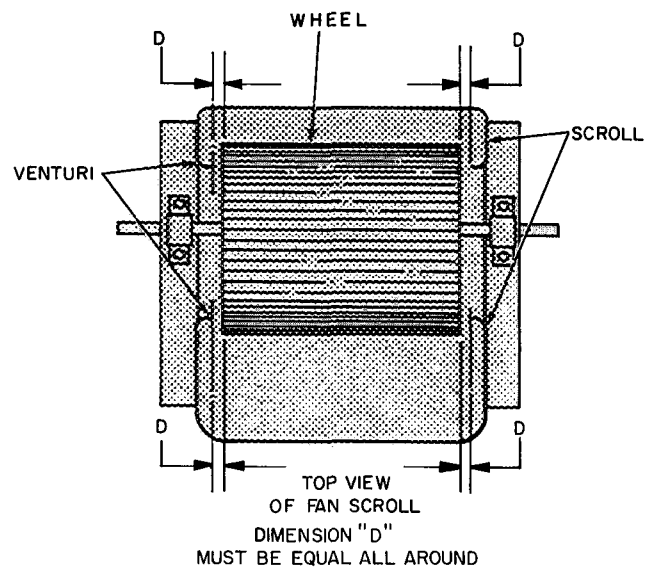

Fig. 7 – Horizontal Wheel Centering
HORIZONTAL WHEEL CENTERING — All wheels must be horizontally centered between the inside edges of their fan scroll venturis (Fig. 7). Adjust as follows:
2. Center the wheel by sliding it horizontally (Fig. 7).
2. Center wheel by sliding it horizontally (Fig. 7).
2. Slide shaft and wheel assembly horizontally until wheels are horizontally centered (Fig. 7).